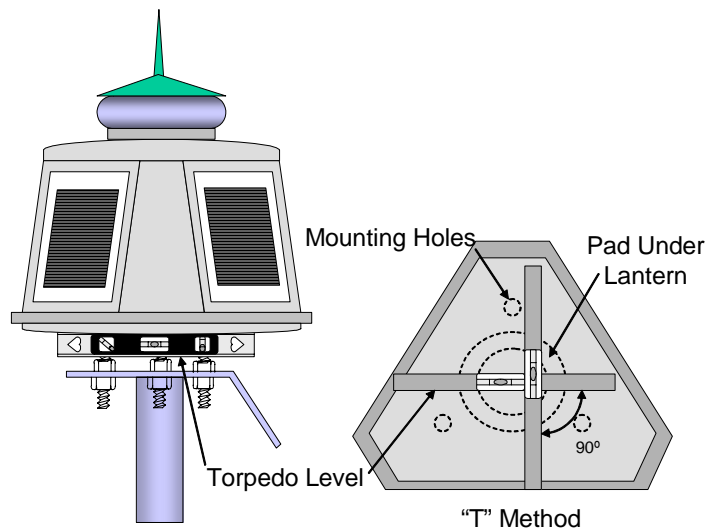

Figure 3-9
- e. Place a torpedo level on the bottom of the lantern (there is a circular pad in the center) in-line with two of the mounting holes. Using the "T" method, level the lantern using one or both of the nuts on top of the platform corresponding to those two mounting holes. Turn the level 90 degrees and level the lantern in that direction by turning the one nut on top of the platform opposite the other two nuts. The lantern should be level in both directions. See Figure 3-9.